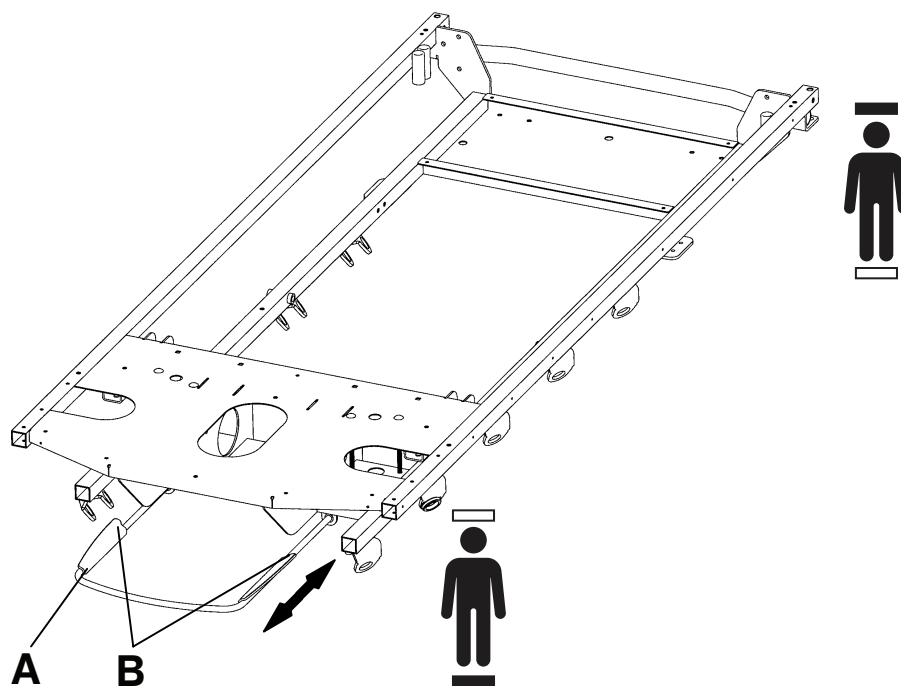

Figure 7 – Position the waste bin holder
2. Slide the waste bin holder (A) out from under the litter frame (Figure 7).
4. Secure the top of the basin on the "wings" (B) of the waste bin holder.